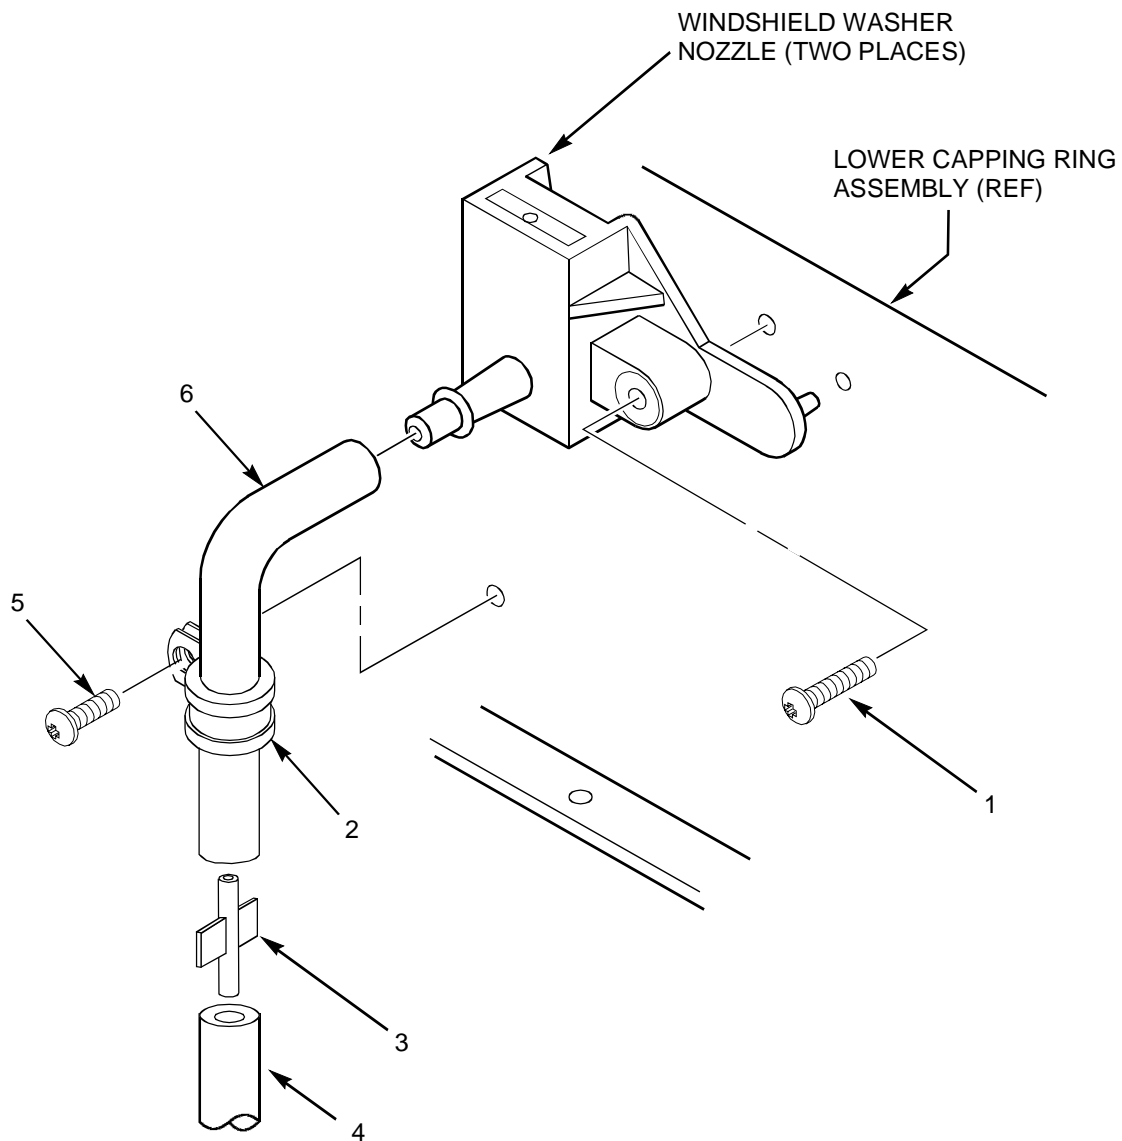

Figure 1-28. Windshield Washer Nozzle Installation (2 and 4 Door)
- 4) Install windshield washer nozzles (see figure 1-28).
- a. Insert hose connector (3) into washer hose (4) and (6) per figure 1-28.
- b. Insert windshield washer hose (6) into windshield washer nozzle and secure nozzle to lower capping ring with 3/4-inch screw (1). Install clamp (2) onto hose (6) and secure to lower capping ring with 1/2-inch screw (5).